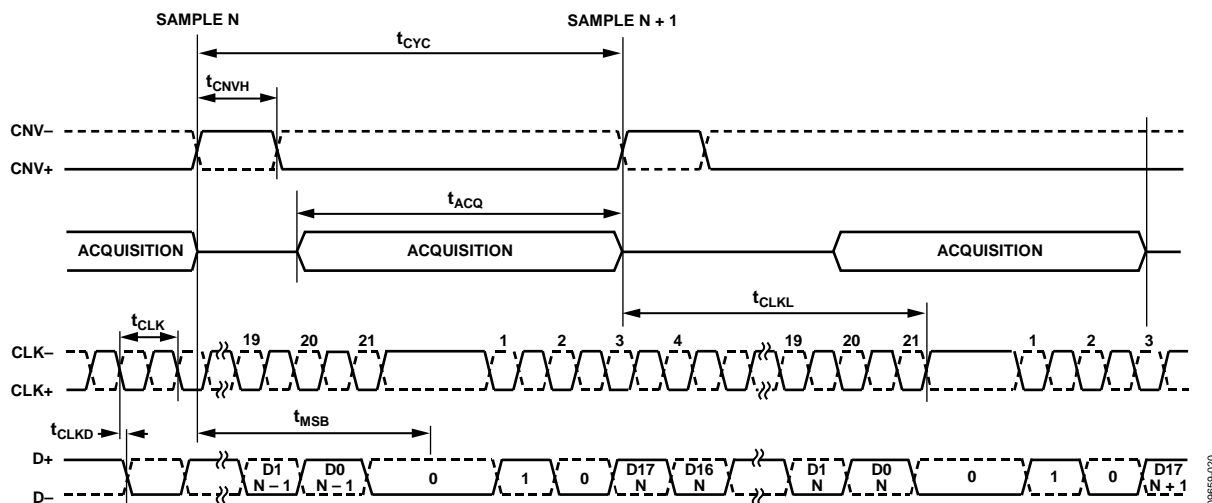

Figure 37. Self-Clocked Interface Mode with Extra Clock Pulse Timing Diagram
When the self clocked interface mode is used, the AD7960 also allows the user to provide an extra (21st) clock pulse to see a guaranteed 0 state at the end of the frame, as shown in Figure 37. After  $t_{MSB}$  has elapsed, the first bit of the header sequence, 0, automatically appears on D $\pm$  and the remaining two bits of the header, 10, are then clocked out by the first two CLK $\pm$  falling edges at the beginning of the next sample. This header (010) is used to synchronize D $\pm$  of each conversion in the digital host because, in this mode, there is no clock output synchronous to the data (D $\pm$ ) to allow the digital host to acquire the data output.